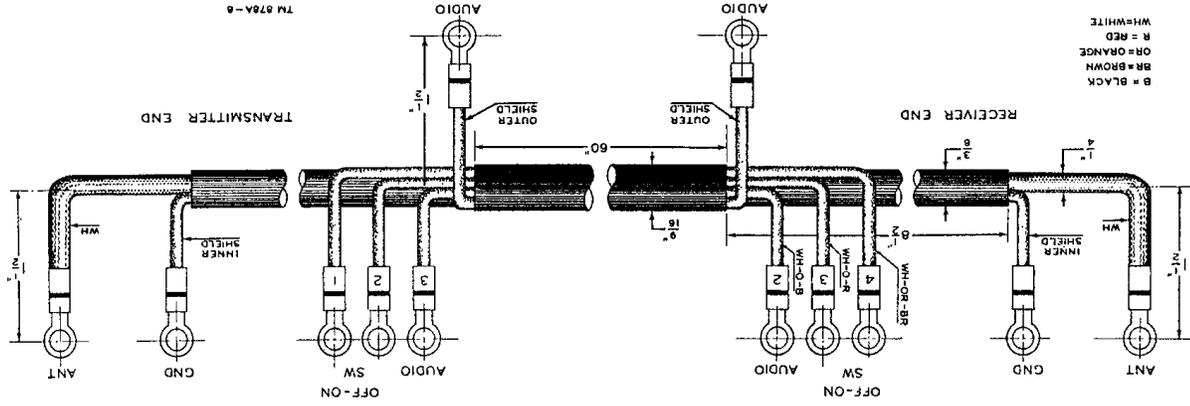
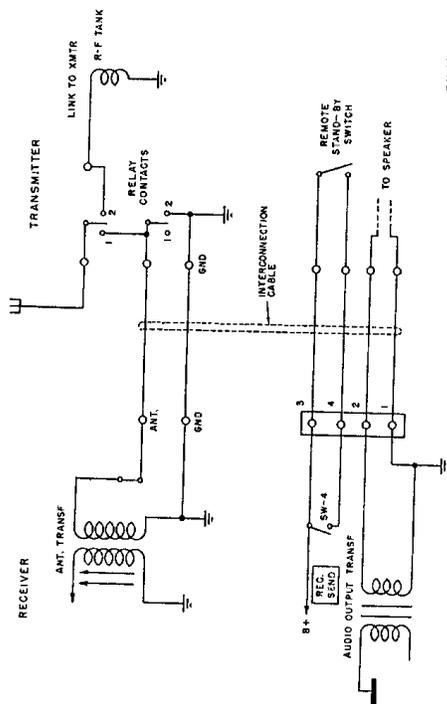

Figure 4. Interconnection cable used with Radio Receiver R-96A/SR and Radio Transmitter T-83/SR.
Figure 8. Interconnections between Radio Receiver R-96A/SR and Radio Transmitter T-83/SR, schematic diagram.
No additional equipment is required for the operation of this receiver as a single unit, assuming proper power supply leads and antenna connections are available. If the receiver is used in conjunction with Radio Transmitter T-83/SR, a special connecting cable must be used. This cable (fig. 4) is supplied with the transmitter.
c. When the receiver is used in conjunction with Radio Transmitter T-83/SR, an interconnecting cable between the two units, as shown in figures 4 and 8, must be used. This cable is supplied with the transmitter as a part of the spare parts components. It is connected between the receiver and transmitter and grounds the receiver input when the transmitter is in operation. It also allows sidetone operation of the transmitter and provides connections for the use of a remote speaker. Figure 8 is a schematic diagram that illustrates the interconnections between the two units. The cable connections to the receiver are indicated in figures 4 and 8. Make sure that all cable connections are secured firmly to the terminal board and the antenna binding post.